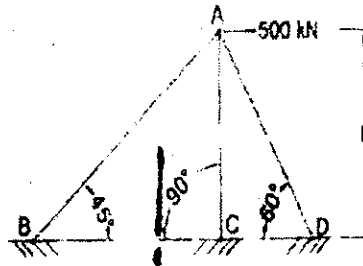

Figure 5
2. Determine the forces in the members using castigliano's energy theorem. The structure is shown in Figure 5. The quantity  $AE$  is constant for all the members.